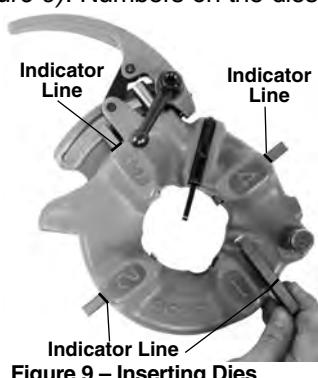

Figure 9 – Inserting Dies
6. Insert appropriate dies into the die head, numbered edge up until the indicator line is flush with the edge of the die head (see Figure 9). Numbers on the dies must correspond with those on the die head slots. Always change dies as sets – do not mix dies from different sets.